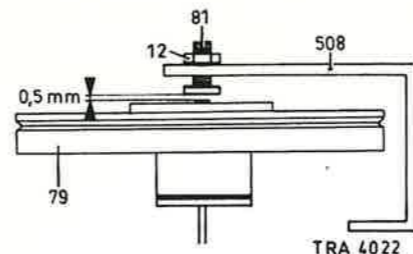
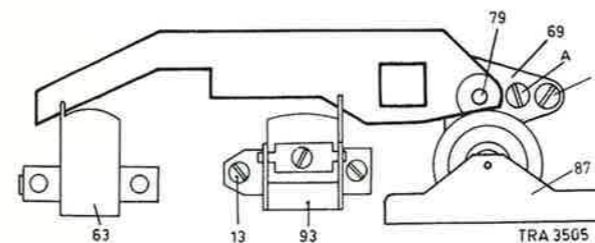

Fig. 2
Fig. 4
- Bracket item 73, which blocks ejection button item 94, should release this button completely in position "stop", "rewind" and "forward". (This can be adjusted by bending bracket item 73.)
- Check: Bracket item 73 should release the ejection button when the playback head and the erase head are completely out of the cassette.
Adjusting flywheel thrust bearing, item 81 (Fig. 2)
- In this position the clearance between the bottom of the capstan and bearing item 81 should be 0.5 mm.
- This can be adjusted by moving the bearing further inwards or outwards and locking it again with nut item 12.
Adjusting capstan bearing, item 69 (Fig. 4)
- The jig should then fix exactly into the guides of the erase head (see Fig. 4).
- If this is not the case, the capstan can be aligned by turning screw A (see Fig. 4) slightly further in or out.
Adjusting playback head K401/501, item 93 (Fig. 4)
- Connect a valve voltmeter to point ① or ⑩ (output stage, left-hand or right-hand channel).
- Adjust playback head item 93 by means of screw item 13 (see Fig. 4) so that the maximum output voltage is measured.